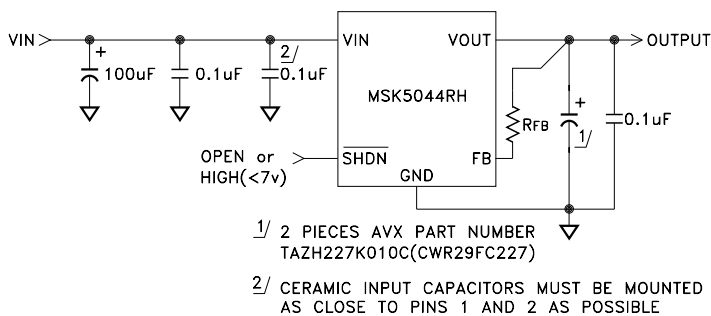

FIGURE 1
- ① Unless otherwise specified VIN=5.0V, VOUT=2.5V and IOUT=1.0A. See Figure 1 for typical application circuit.
- ② Guaranteed by design but not tested. Typical parameters are representative of actual device performance but are for reference only.
- ③ Verified during line regulation test.
- ④ Industrial grade devices shall be tested to subgroup 1 and 4 unless otherwise specified.
- ⑤ Military grade devices ("H" Suffix) shall be 100% tested to subgroups 1,2,3 and 4.
- ⑥ Subgroup 5 & 6 testing available on request.
- ⑦ Subgroup 1,4 TA = TC = +25°C
The output voltage of the MSK5044RH is set with a single resistor, see Figure 1 (Typical Application Circuit). Select the value of RFB using the formulas below.